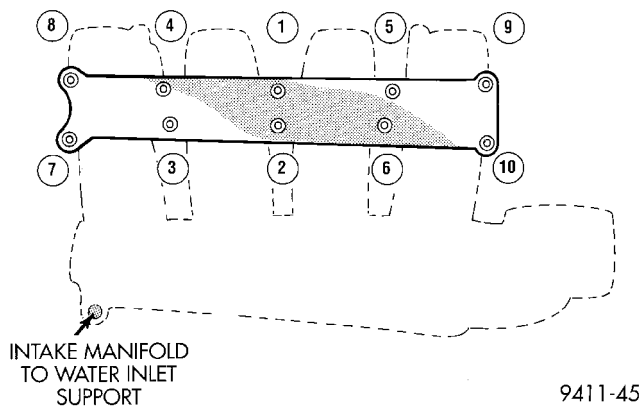

Fig. 18 Intake Manifold Tightening Sequence
(19) Remove the intake manifold to inlet water tube support fastener (Fig. 18).
(20) Remove 10 intake manifold screw and washer. Discard the fasteners. Remove intake manifold.
(1) Install intake manifold onto cylinder head and tighten fasteners to 12 N·m (105 in. lbs.) in sequence shown in (Fig. 18).
(2) Install intake manifold to water inlet support fastener (Fig. 18) tighten to 12 N·m (105 in. lbs.).
(3) Remove covering from fuel injector holes and insure the holes are clean. Install fuel rail assembly to intake manifold. Tighten screws to 23 N·m (200 in. lbs.).
(4) Connect PCV and brake booster hoses.
(5) Inspect quick connect fittings for damage, replace if necessary Refer to Group 14, Fuel System for procedure. Lube tube with clean 30w engine oil, Connect fuel supply hose to fuel rail assembly. Check connection by pulling on connector to insure it locked into position.
(6) Install throttle body. Tighten fastener to 22 N·m (200 in. lbs.). Install transmission to throttle body support bracket and tighten to 11.9 N·m (105 in. lbs.) at the throttle body first. Next tighten the bracket at the transmission.
(7) Connect Manifold Absolute Pressure/Intake Air Temperature Sensor (MAP) wiring connector.
(8) Connect knock sensor connector, and wiring at starter. Connect wiring harness to intake manifold tab.
(9) Connect Idle Air Control (IAC) motor and Throttle Position Sensor (TPS) wiring connectors.
(10) Connect vacuum hoses to throttle body.
(11) Install accelerator, kickdown and speed control cables to their bracket and connect them to the throttle lever. Refer to Group 14, Fuel System Throttle Body Installation for procedure.
(12) Loose assemble the EGR tube onto valve and intake manifold finger tight. Tighten tube fasteners at the EGR valve first to 11 N·m (95 in. lbs.) then, tighten the intake manifold side fasteners to 11 N·m (95 in. lbs.).